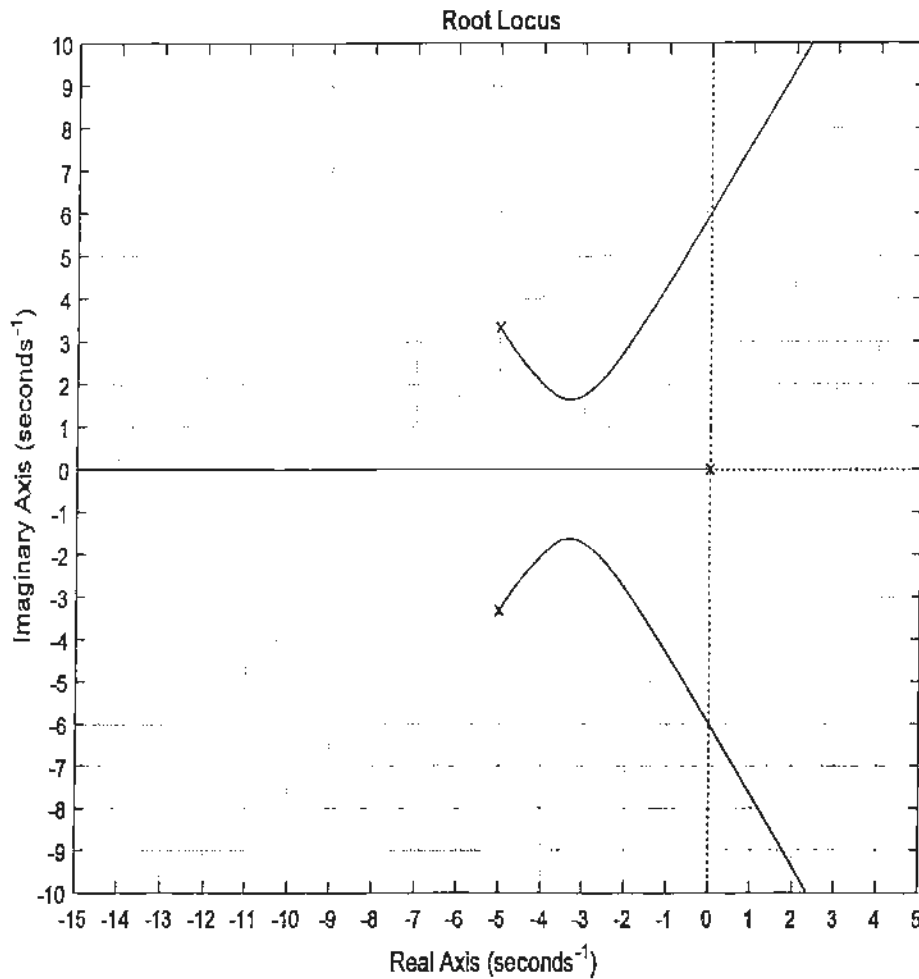

Figure Q4.2 – Root Locus of the System in Question 4
- 1) **(5 marks)** A Root Locus plot for this system is shown in Figure Q4.2. Calculate asymptotic angles, the location of the centroid and angles of departure from the complex open loop poles. Next, clearly superimpose these on the plot in Figure Q4.2.
- 2) **(5 marks)** Locate and label the coordinate of the crossover with the Imaginary axis (i.e. the marginal stability condition) on the Root Locus plot in Figure Q4.2 and read off the corresponding value of the frequency of marginal stability oscillations, ω_{osc} . Next, calculate the corresponding value of the critical gain, K_{crit} , at which the system becomes marginally stable.